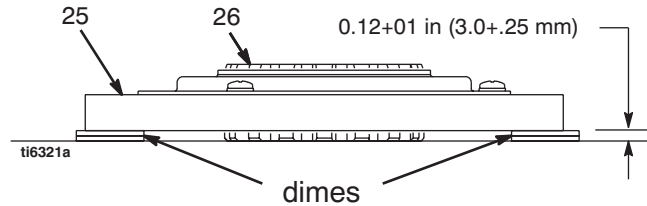

FIG. 8
1. FIG. 8. Lay two stacks of two dimes on smooth bench surface.
2. Lay armature (25) on two stacks of dimes.
3. Press center of hub (26) down to bench surface.